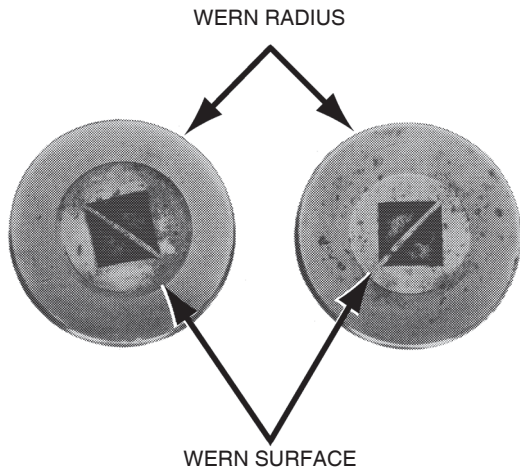

Figure 4.2
- The center of the large-diameter end of the rollers is worn level with or below the outer surface. Figure 4.2
- The radius at the large-diameter end of the rollers is worn to a sharp edge. Figure 4.2.